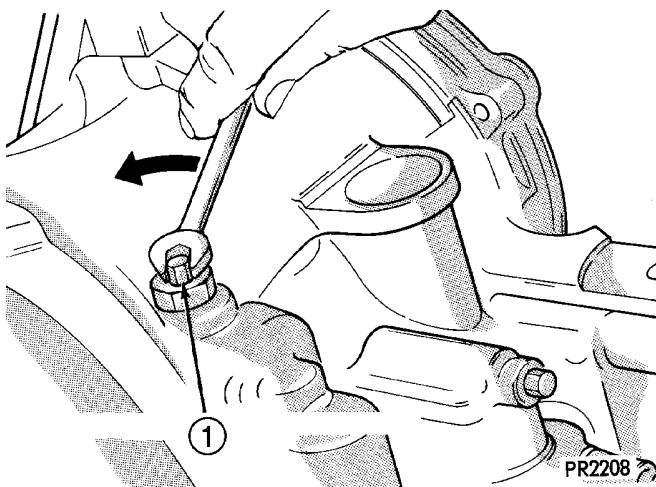

Fig. 18 Kickdown Band Adjusting Screw
(19) Loosen kickdown band adjusting screw (Fig. 18) enough to facilitate strut removal.